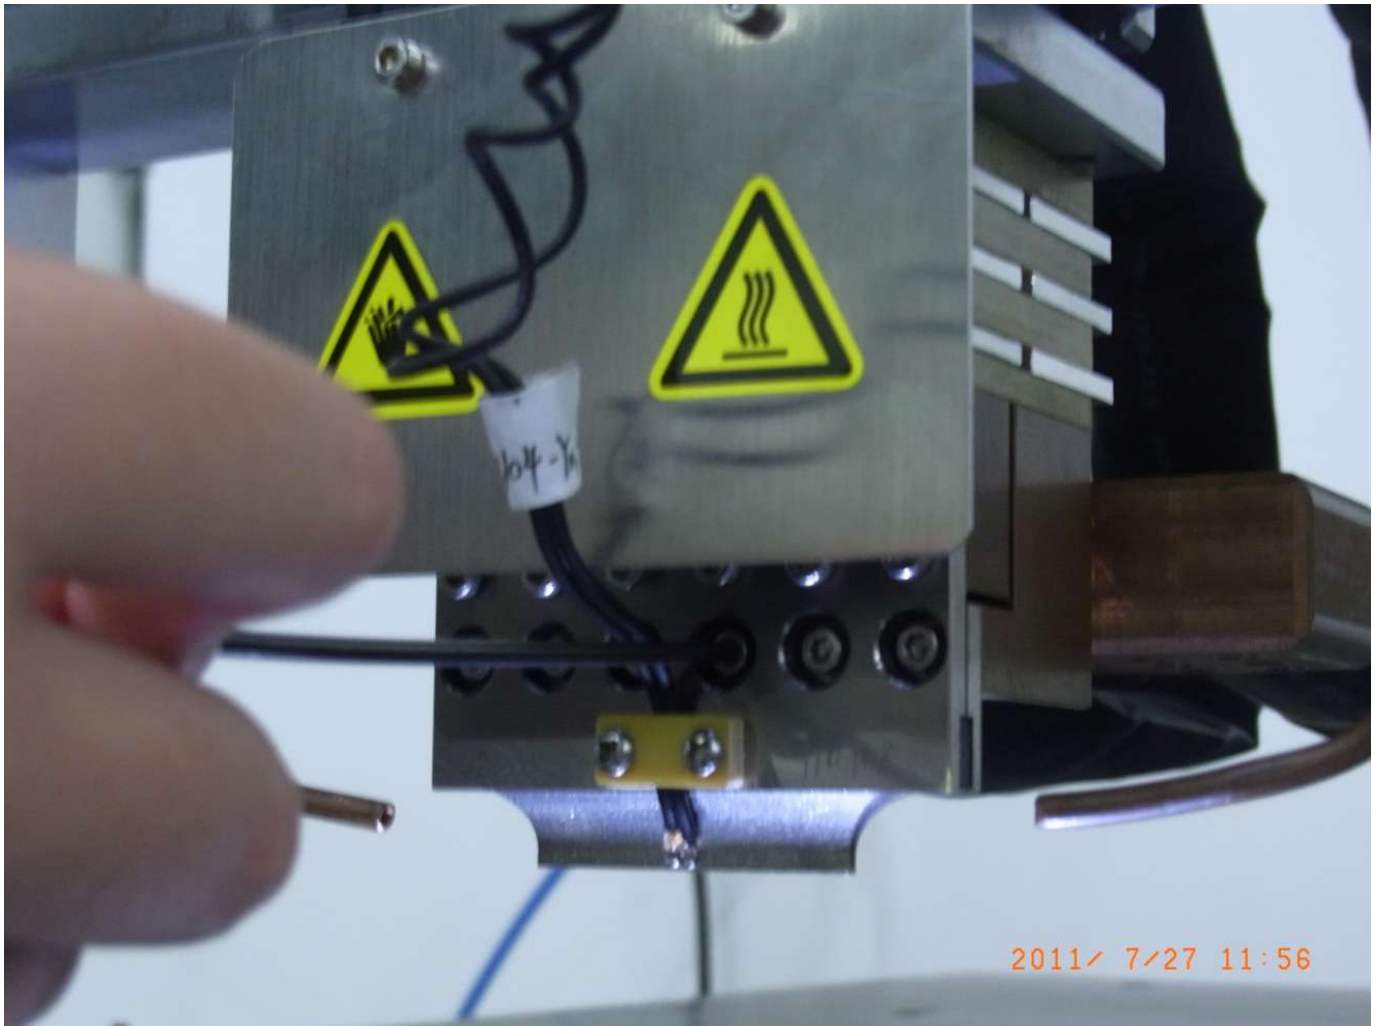

Figure 4
6.1 Install the required thermode and tighten the two to six M2.5 bolts (see Fig 4). Ensure interposer is mounted on supply reel, routed through the two guides and under thermode, and connected to take-up reel (see Fig 4.5). Rotate take-up reel to advance interposer one thermode length after completing 6 bonds.